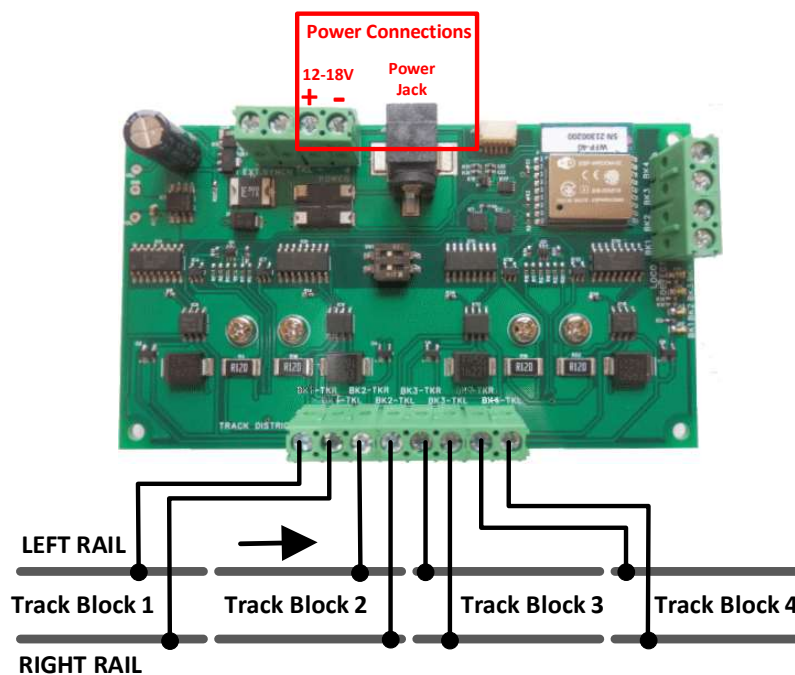
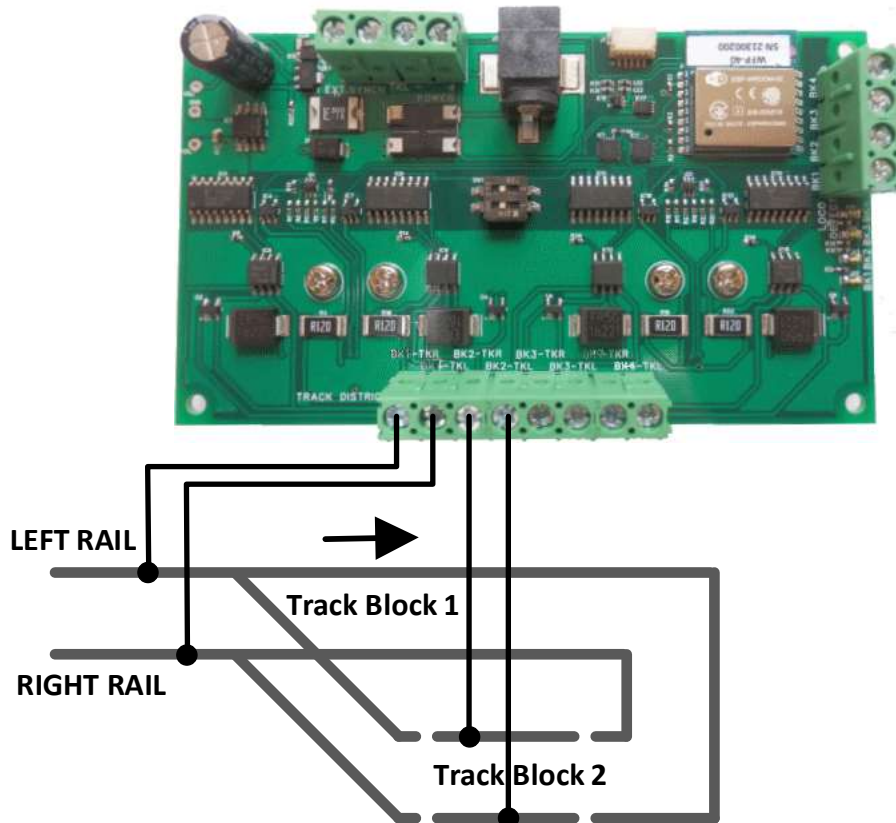
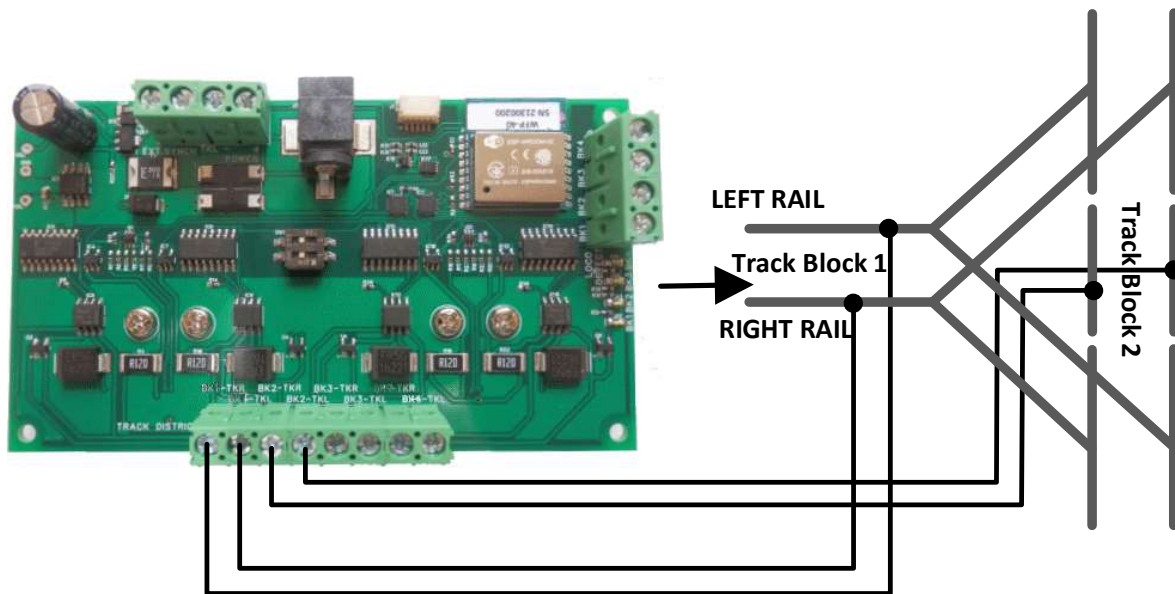
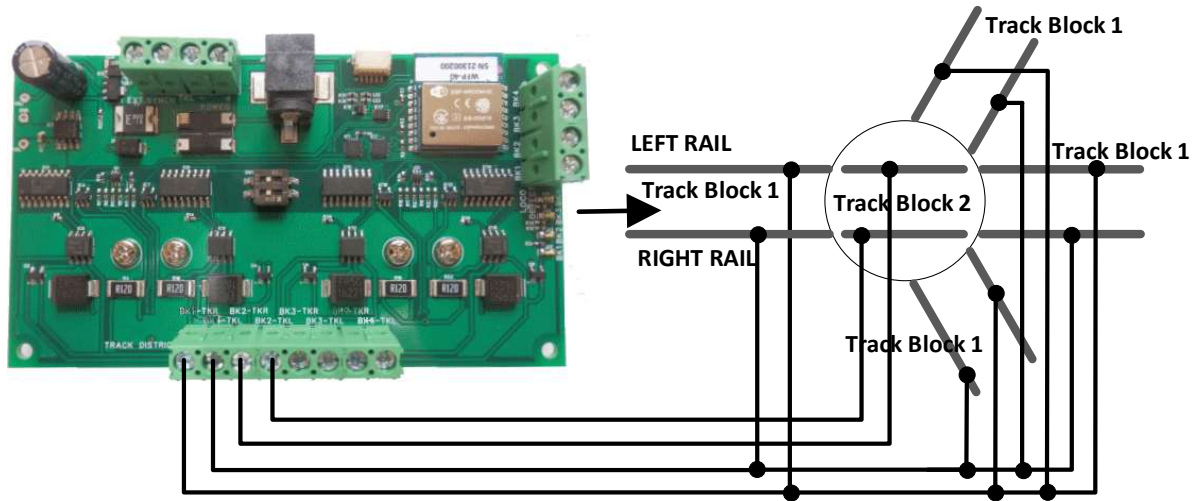

Figure 2. Connections to Four Sequential Blocks on the Model Railroad
Figure 3. Connections for a Return Loop on a Model Railroad
Figure 4. Connections for a Wye on a Model Railroad
Figure 5. Connections for a Turntable on a Model Railroad
- (2) The WFM-40 supports several scenarios that you may encounter on your layout. These are shown in Figure 2, Figure 3, Figure 4 and Figure 5. Figure 2 is the simplest case in which the WFM-40
controls four consecutive blocks. Figure 3, Figure 4 and Figure 5 show how the module may be used to handle a return loop, a wye and a turntable – three scenarios in which it is necessary to reverse the polarity on blocks as the locomotive traverses them to avoid shorts.